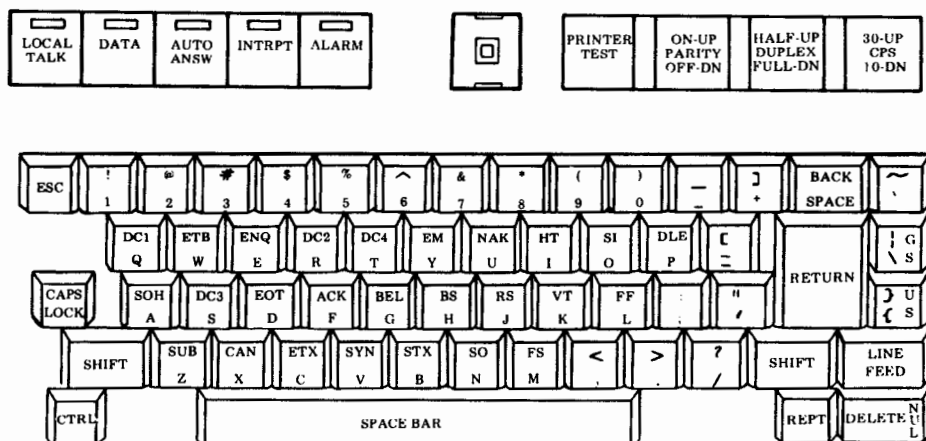

Fig. 17—Keyboard Layout
4. KEYTOP AND KEYSWITCH IDENTIFICATION (Fig. 17, 18 and 19)